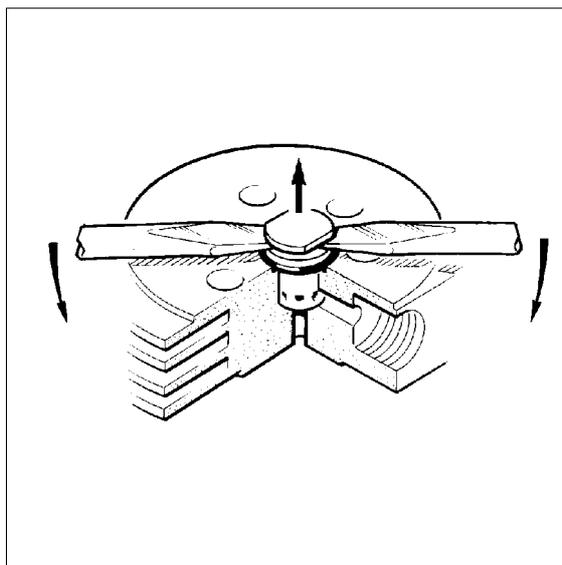

Fig. 20 Removal of 3rd stage pressure valve
- Remove acorn nut (1), rewind stud (3) up to three or four turns.
- Remove internal hex. screw (9) fixing valve head (7), take off valve head cover (8).
- Put two screwdrivers into the groove of outlet valve body, see Fig. 20. If necessary loosen valve at first by using a 13 mm spanner on the flat surfaces.
- Lift out pressure valve (5) together with O-ring (4).